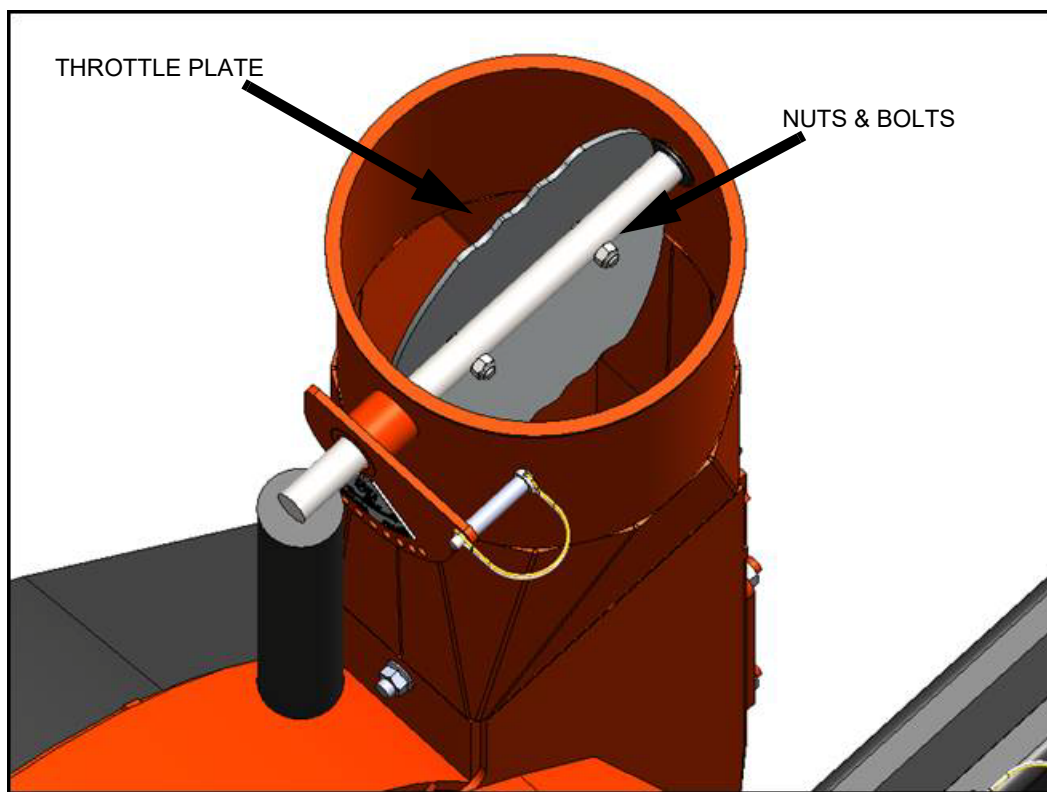

Figure 6.17 Air Throttle Assembly
- b. Loosen the 2 bolts and nuts on the throttle plate enough to enable the throttle shaft to slide out (see Figure 6.17).